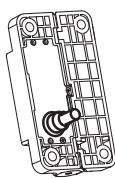

Fig.1
Max 180° (0° and +180° being 0° the condition where the two interconnected surfaces are on the same plane fig. 1). The switching angle (see Built-in safety multiple switch functioning and maintenance) is guaranteed from this position. The condition where the two interconnected surfaces are on the same plane is to be strictly verified because the hinge must not be stressed by any negative angle (fig. 2).
- The hinge must not be used as a mechanical end-stroke either for door maximum opening or for closed door. For this purpose we recommend using external mechanical stops to prevent the door from opening completely against the hinge body assembled on the frame (fig. 1) or exceeding the angle where the two interconnected surfaces are on the same plane (fig. 2).